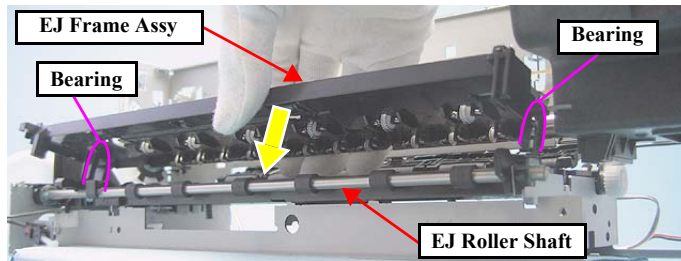

Figure 1-79. Reinstalling the EJ Frame Assy
- As shown in Fig.1-79, insert the two bearings of the EJ Frame Assy over the EJ Roller Shaft.